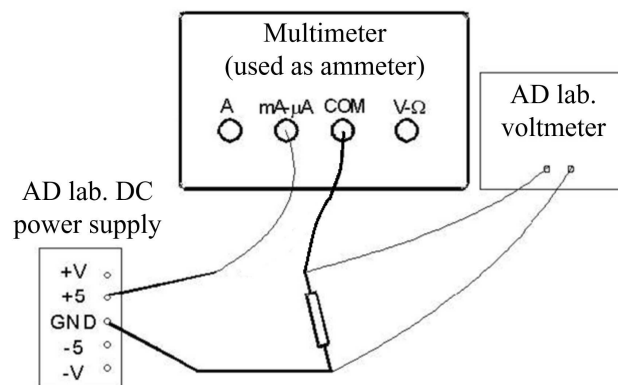

Figure 1.11: Circuit for item 2.
2. Build the circuit in figure 1.11. Measure the electrical potential and the current for each of the three resistors. Fill in the table in your report.